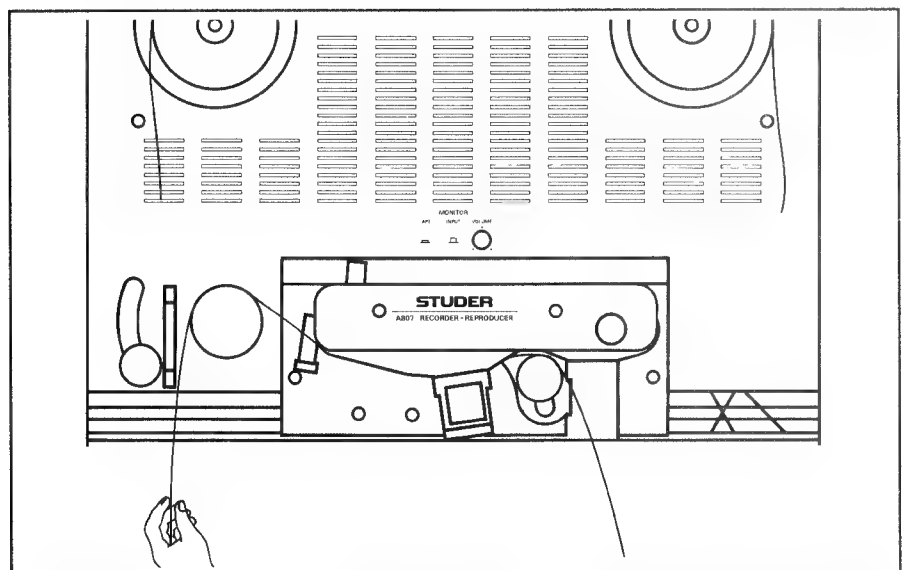

Fig. 2.4.16
- Thread the tape according to (Fig.2.4.16) and select the TAPE DUMP [30] function.